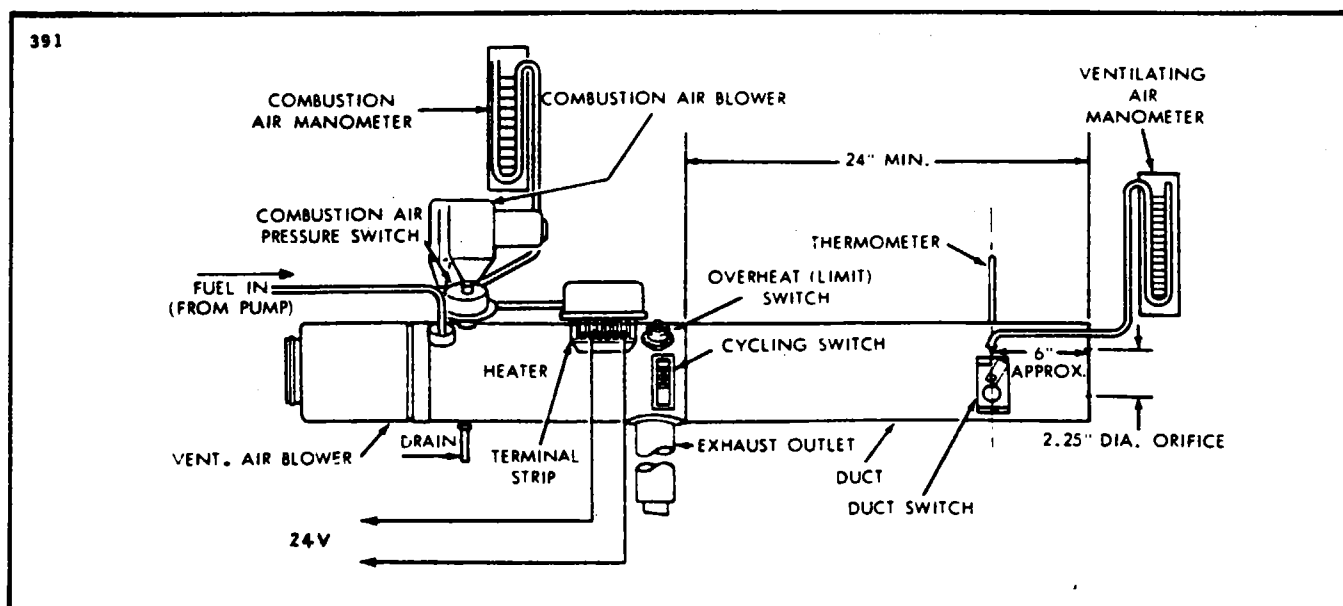

Figure 13-33. Suggested Setup for Heater Operation Test
13-51. EQUIPMENT REQUIRED. (Refer to Figure 13-33.)
- f. A piece of duct to be attached to the downstream end of the heater. It should have a minimum length of 24 inches and the same diameter as the heater being tested. A 2.25 inch diameter orifice should be centrally located at the outlet end. An aperture should be provided for the thermometer and duct switch and a static tap should be attached as shown in Figure 13-33.
13-52. OPERATIONAL TEST. (Refer to Figure 13-33, 13-34, 13-35 or 13-36.)
- a. Connect the heater to the test set-up as shown in Figure 13-33. Make sure the combustion air blower is mounted securely and that the heater is clamped to its supporting stand.
- b. Insert the duct switch in the sheet metal extension tube at the location shown in Figure 13-33.